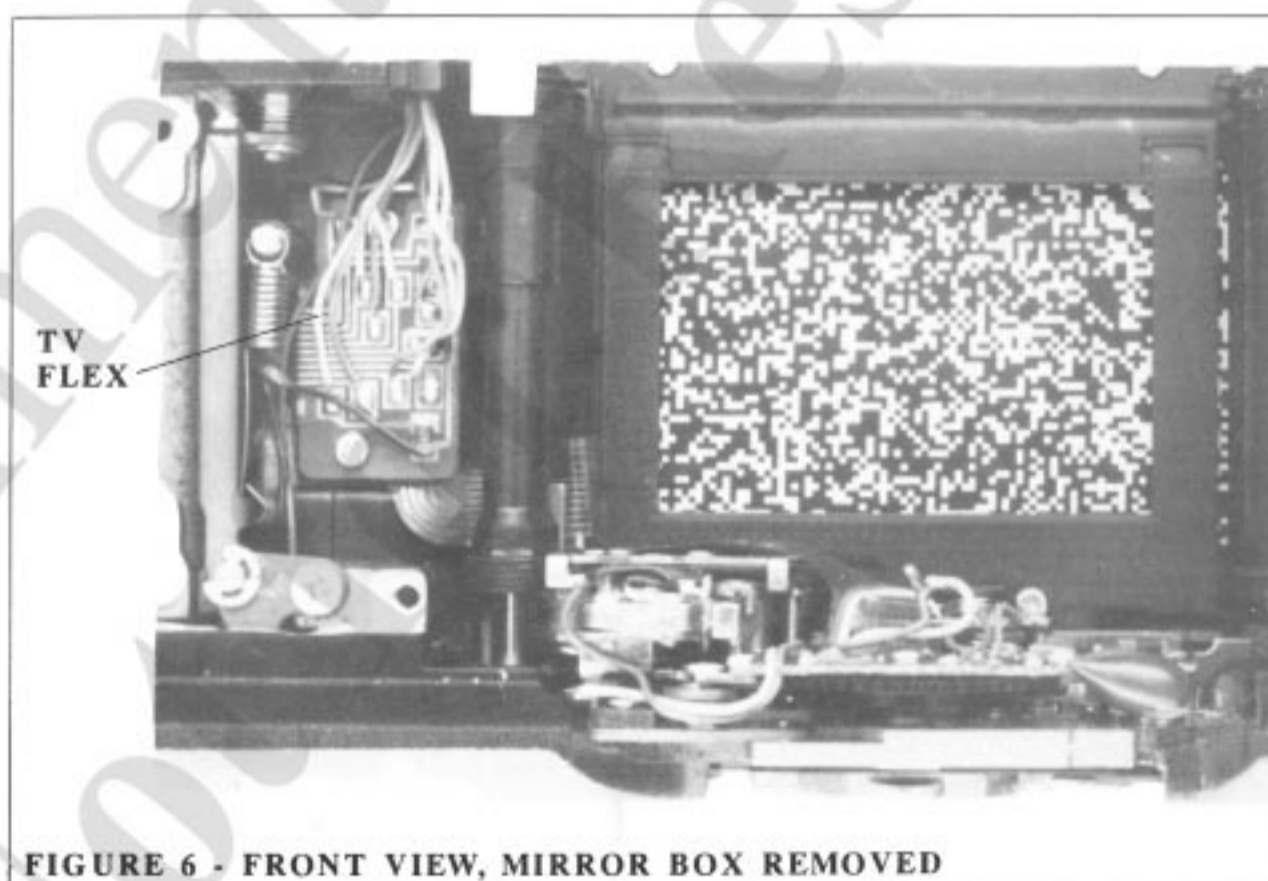

FIGURE 6 - FRONT VIEW, MIRROR BOX REMOVED
3. SW103. X-sync contacts, bottom of camera connecting to TV board, Fig. 6. Closes when the 1st curtain crosses the aperture, switching pin 37 of the I/O IC to